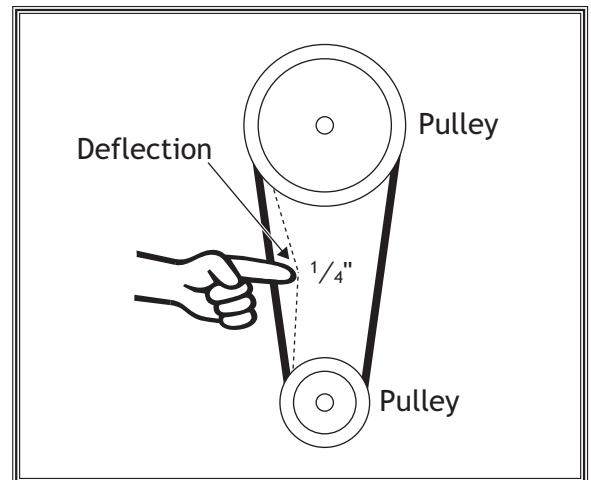

Figure 50. Belt deflection.
2. Push the center of each V-belt (Figure 50), using moderate force. Deflection should be about 1/4". If deflection is more than 1/4", tension that V-belt (Page 39) before doing Step 4.